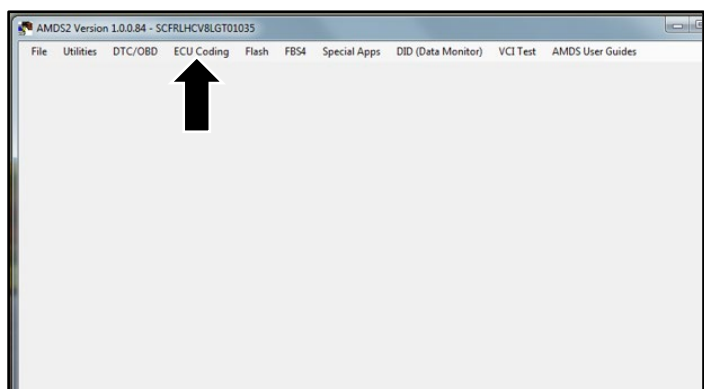

Figure 5
9. Select "ECU Coding" (refer to Figure 5).